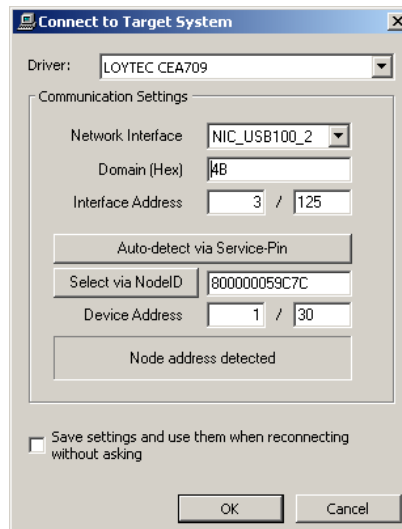

Figure 67: Connect via CEA-709
- **CEA-709:** Select the network interface to use and fill out all other fields, see Figure 67. Alternatively, select the network interface and press Auto-detect via Service-Pin. Then press the service pin on the LINX-110 device. Note that this connection method requires an installed LOYTEC network interface.